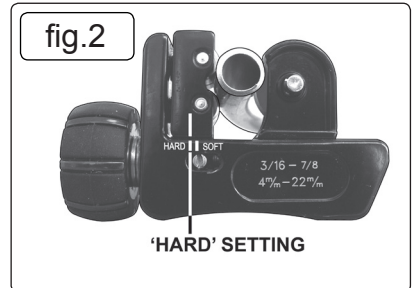

fig.2
- 4.3. If the pipe to be cut is of a hard formulation, increase the pressure until the mark on the side of the sprung roller mechanism lines up with the 'HARD' marking on the main body as shown in (fig.2).